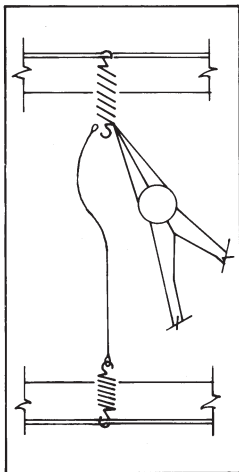

Figure 6
- Loop one end of the new wire over the bottom spring then extend the top spring and loop the end of the wire over the spring (see Figure 6 & 7). Pliers may aid this operation.